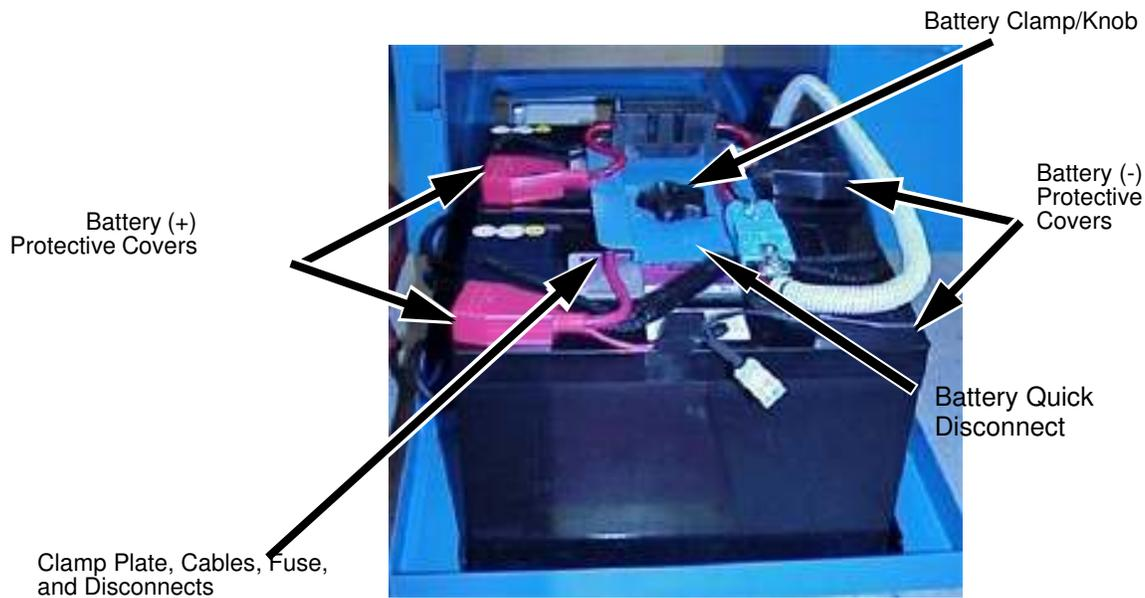

Figure 21. Replacing the Batteries
1. Unplug the Main Battery Quick Disconnect, see Figure 21 on page 42.
2. Lift the protective covers on the battery (-) terminals and remove the hardware holding the cables in place, (retain hardware), see Figure 21 on page 42.
4. Loosen and remove the battery clamp knob, see Figure 21 on page 42.